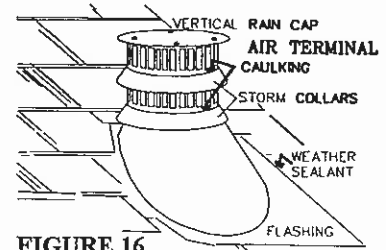

FIGURE 16
7. Apply a heavy bead of weatherproof caulking 2 inches above the flashing. Slide the storm collar around the air terminal and down to the caulking. Tighten to ensure that a weather-tight seal between the air terminal and the collar is achieved. Attach the other storm collar centered between the air intake and the air exhaust slots onto the air terminal. Tighten securely. FIGURE 16. Attach the vertical rain cap.